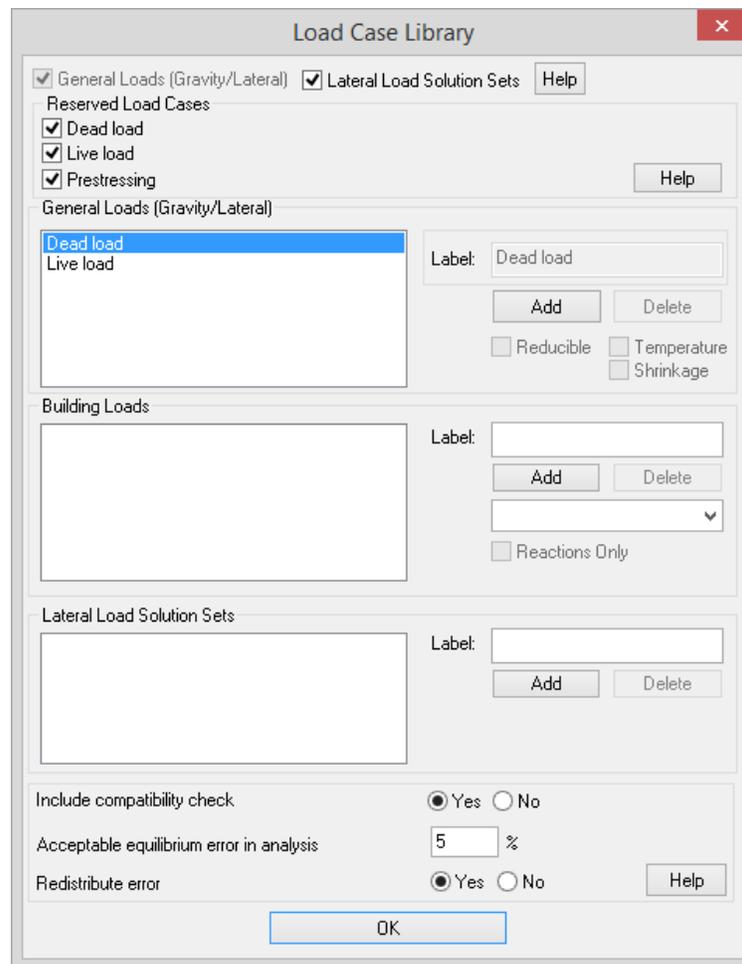

FIGURE 7.4-2 - Load Case Library Dialog Window
- From *Loading* → *Load Cases/Combo* → *Load Case Library*, check *Special lateral loads* option. The dialog window shown in **Fig. 7.4-2** will appear.